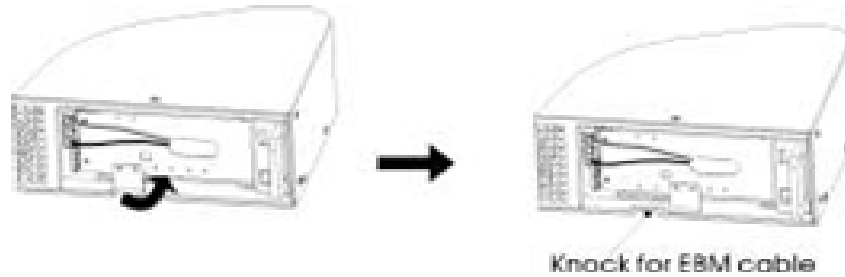

Figure 9 - Removing the UPS Cable Knockout
- b) On the bottom of the UPS front cover, remove the BC cable knockout (see Figure 9).